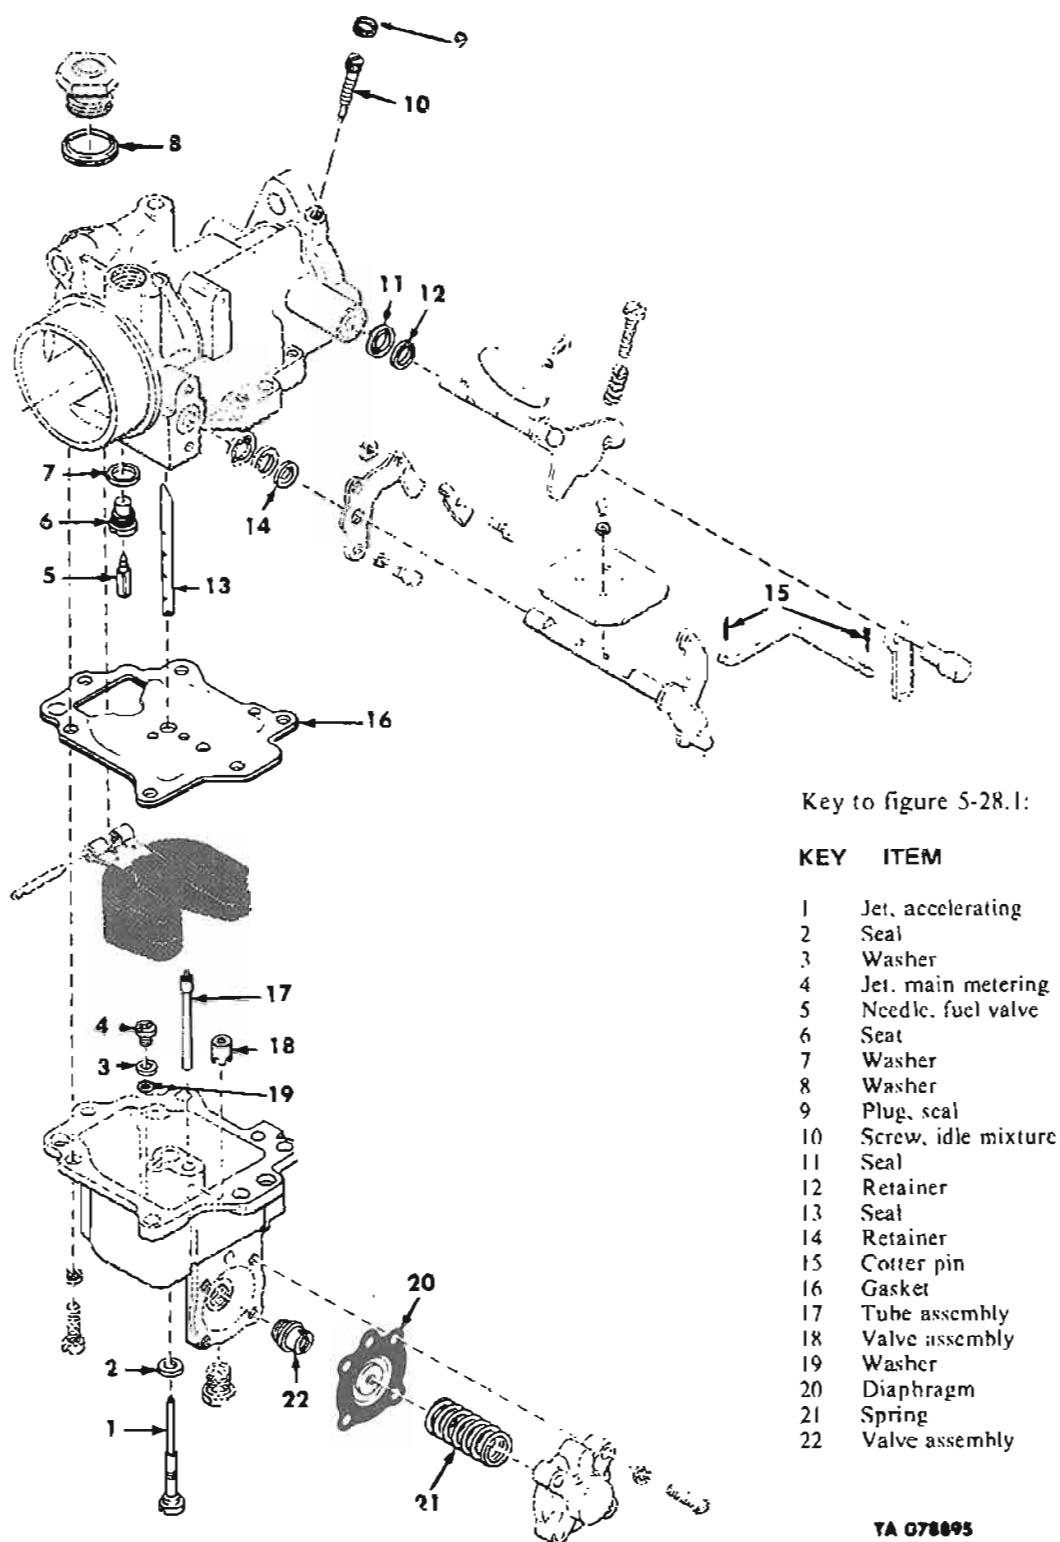

Figure 5-28.1 (Zenith Model 10939511 and 11641105) — Exploded View.
(13) Wipe all parts with a clean lint-free cloth. Be sure all dirt, gum, and other matter are removed.
(14) After all parts are clean, dry with compressed air. Thoroughly blow out all air and fuel passages.
(15) Visually inspect idle tube and main well tube housing for foreign particles. Make sure all dirt has been removed.
c. Assembly (key numbers in parentheses refer to figure 5-28.1).